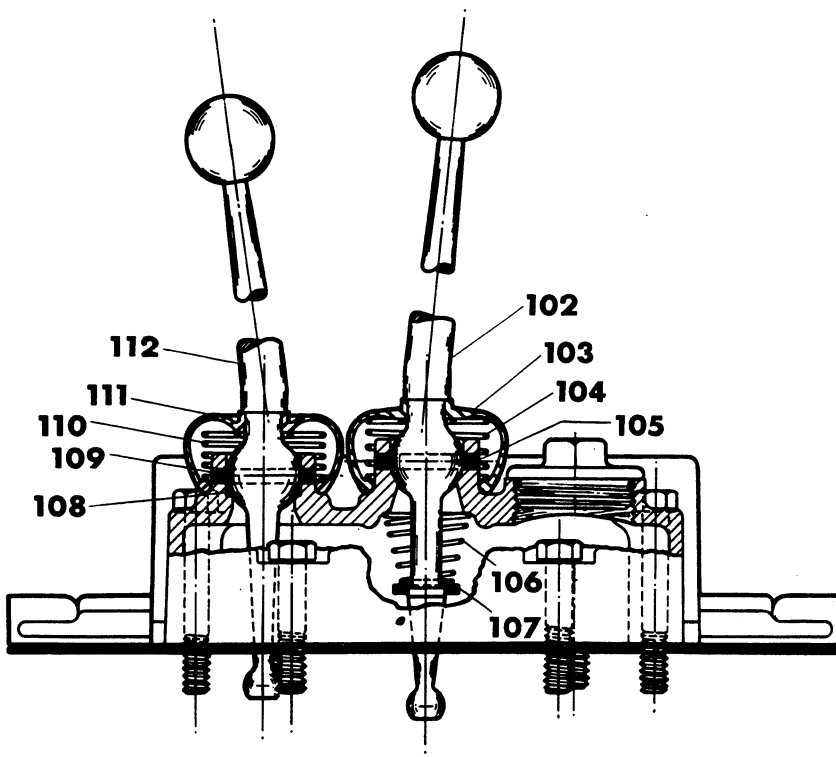

FIG. 19
2. Fig 19. Remove the bolts securing the shift lever support and battery platform to the transmission housing. Lift the support and platform up off the transmission housing.
3. Release the spring retaining seat (107) from the lower end of the gear lever (102) and detach the seat and spring (106).
4. Remove the gear lever rubber cover (103) and spring (104) fitted under the cover.
5. Drive out the pin (105) securing the gear lever (102) to its housing.
6. Lift out the gear lever (102).
1. Fig 19. Remove the rubber cover (111) and spring (110) fitted under the cover.
2. Drive out the pin (109) securing the lever (112) to its housing.
3. Lift out the lever (112) and 'O' ring (108).